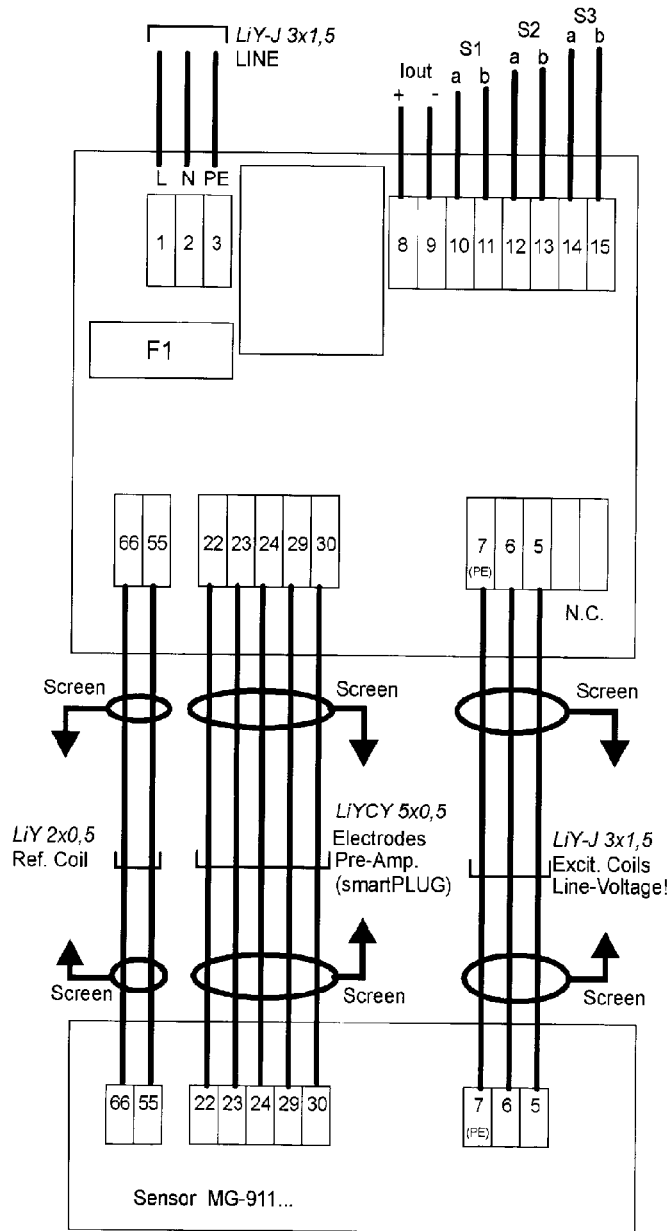

Fig. 4-4: Wiring diagram for TRANSMAG
- Fig. 4-4: Wiring diagram for TRANSMAG